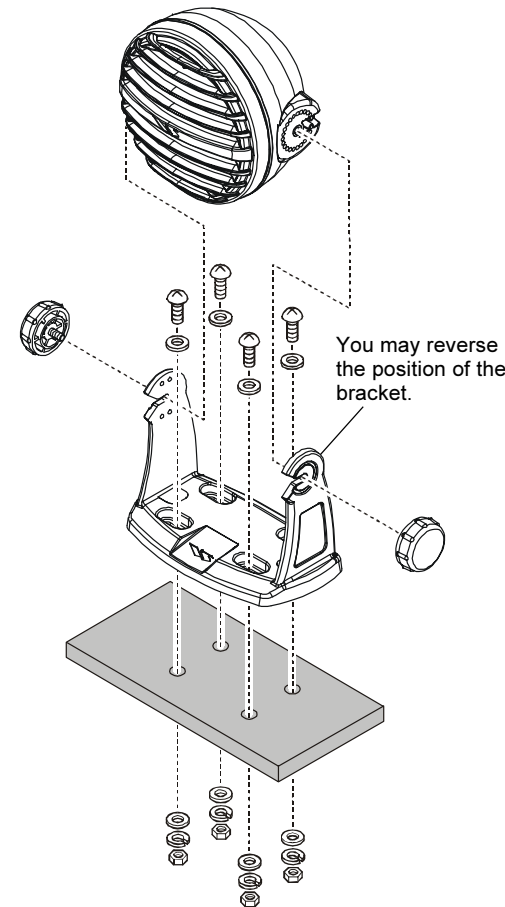

Figure 1 (Desktop Mount)
4. Use a 5.2-mm (17/64") bit to drill the holes, and secure the bracket with the supplied screws, spring washers, flat washers, and nuts (Figure 1 & 2).